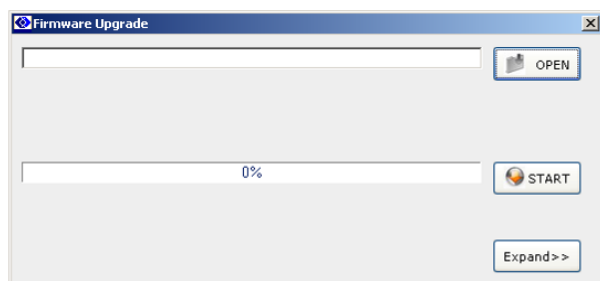
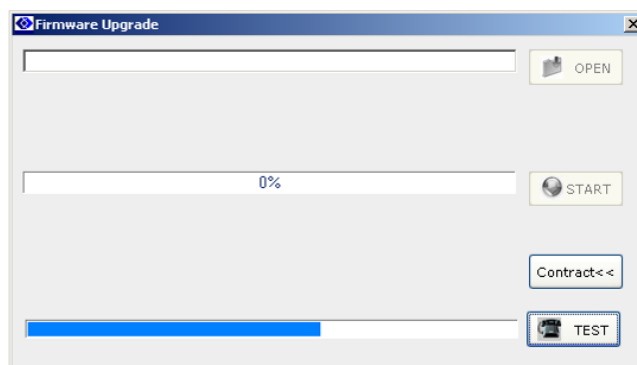

Figure 1
Figure 2
- 2) Click “Firmware Upgrade” from the Start menu, or start “Firmware Upgrade.exe” under the folder of upgrading software installation, the screen will show you the upgrading procedure interface (refer to Figure 1). Press “ Expand” to enter into the expansion interface (refer to Figure 2). Press “Test” to test whether the RS232 connection is connected normally. If it is normal, the computer will display “communication is normal”. Press “Compress” to resume the original interface.
Tube	Under this mode (once entering into the thermostatical state after reaching target temperature and decreasing about 3°C), reagent's temperature can be close to target temperature very fast (see Fig. 2).